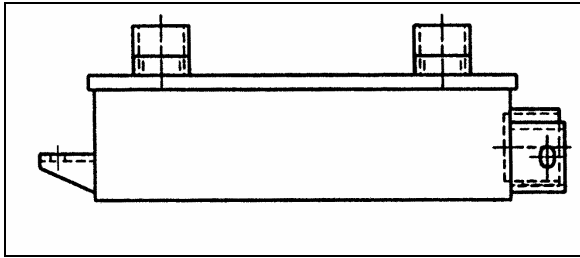

FIGURE 13: COOLER WITH RETARDER
18. Adjust the retarder pressure to  $80 \pm 3$  psi with the air pressure regulator. For more information refer to Section 12, "BRAKE AND AIR SYSTEM", under heading "AIR PRESSURE REGULATOR". The air pressure regulator is located at back of engine compartment, on R.H. side (Fig. 13) or in the R.H. side rear service compartment.